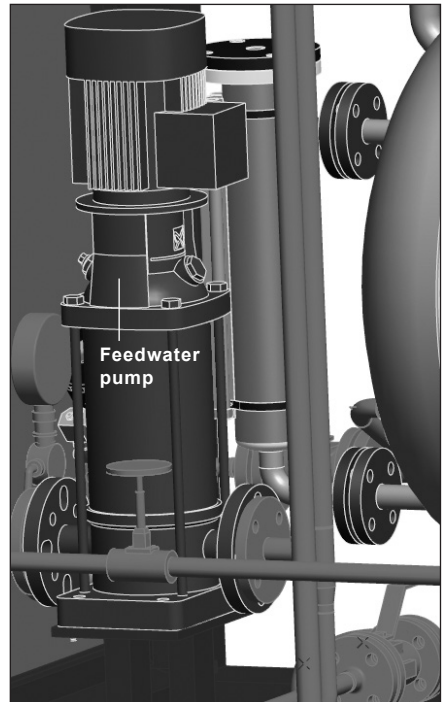

Fig. 23
5.4.11 Feedwater pump - Figure 23